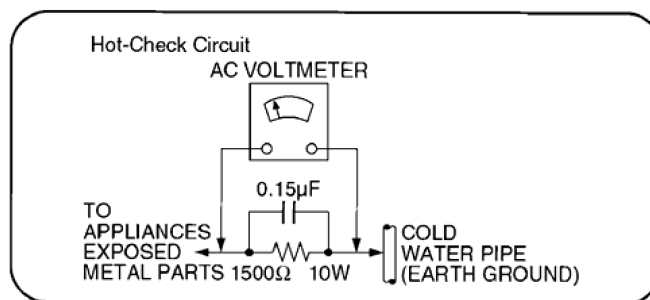

Figure 5.1
5.1.2. Leakage Current Hot Check (See Figure 5.1)
2. Connect a $1.5\text{k}\Omega$, 10 watts resistor, in parallel with a $0.15\mu\text{F}$ capacitor, between each exposed metallic part on the set and a good earth ground such as a water pipe, as shown in Figure 5.1.